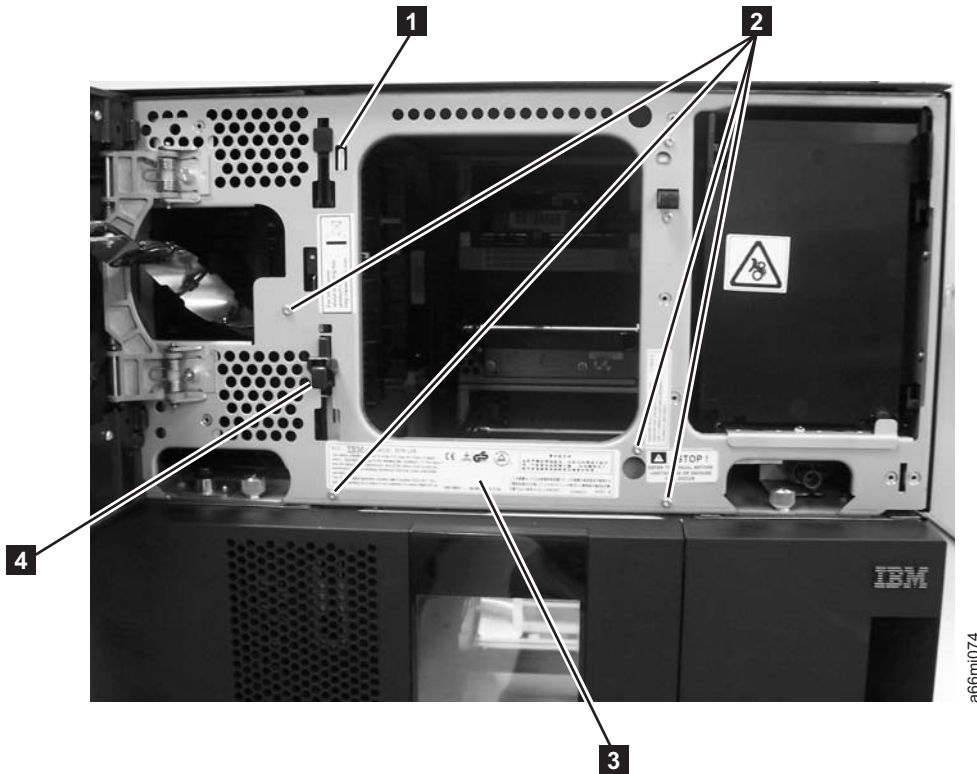

Figure 8-66. Front gear rack
3. There is a small metal tab in the chassis frame (**1** in Figure 8-66 on page 8-66) that prevents the gear rack from falling down too far when the locking mechanism is released. Bend the tab out slightly so the gear rack can be removed.
4. Slightly push up and pinch the gear rack locking mechanism to unlock the front gear rack (**4** in Figure 8-66 on page 8-66).
5. While pinching the gear rack locking mechanism (**4** in Figure 8-66), push the gear rack down, then release your hold on the locking mechanism.